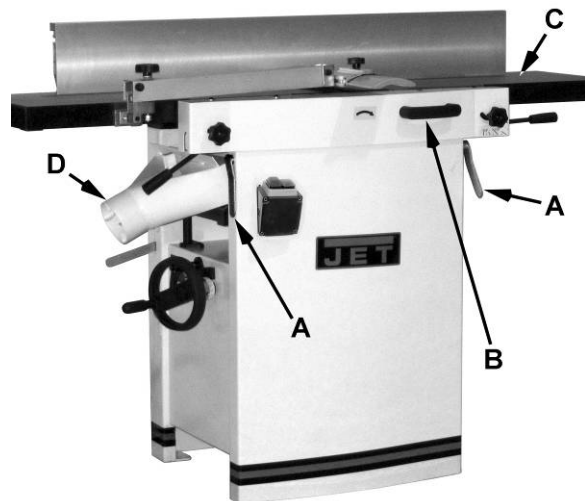

Figure 2
To change the machine configuration jointer to planer (refer to Figure 2):
1. Pull the *release knob* (F) and reposition the *dust chute* (D, G) to the left. It should be positioned as shown in D, Fig. 2.
2. Release the *latch* (E) and bring the table forward using the *tilt handle* (B). It should be positioned as shown in C, Fig. 2.
3. Lock the *table* (C) by pushing the *lock handles* (A) in toward the machine and rotating down (away from the operator).